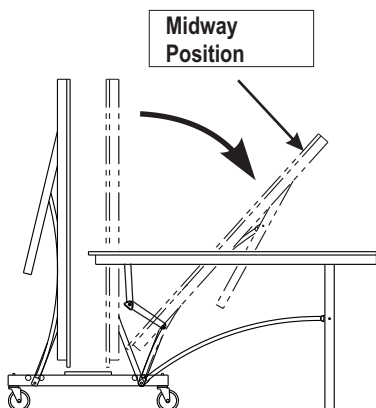

Figure 13A
1. Hold center of top edge. Gently pull outward to midway position. Continue to pull until disengaged from plastic clips and legs rest on the floor as shown in Figure 13A and 13B. Do not leave table partially opened at midway position.